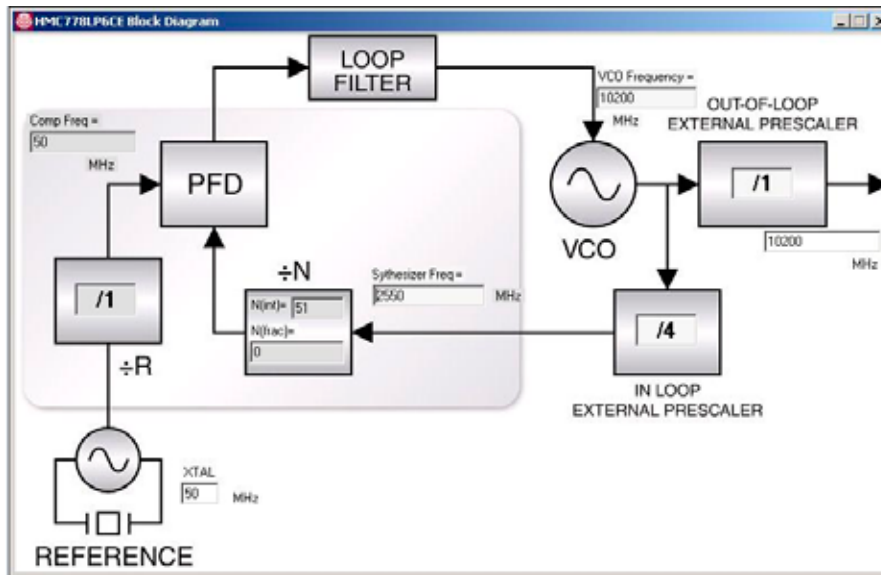

Figure 10. Synthesizer Block Diagram
Step 7. Click “HMC Synthesizer Block Diagram” button, the block diagram pops out as Figure 10 shown (optional to show the configuration but step not required to run the part).